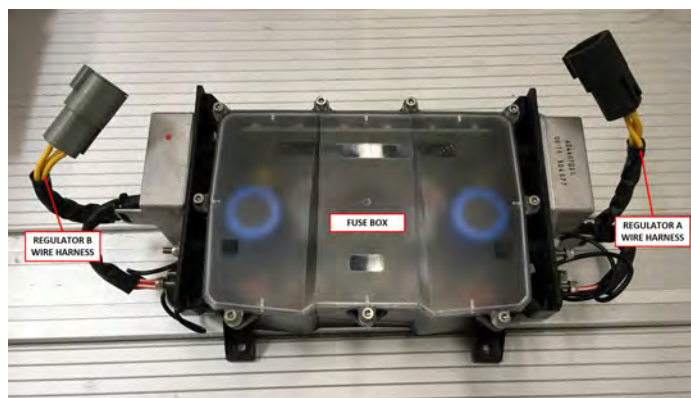

FIGURE 17-50
3. Inspect the Regulator A and B wires near the connectors (Figure 17-50). Replace the Regulator if any signs of discoloration (browning) are apparent. (See “Remove Fuse Box and Regulators” on page 17-87.)